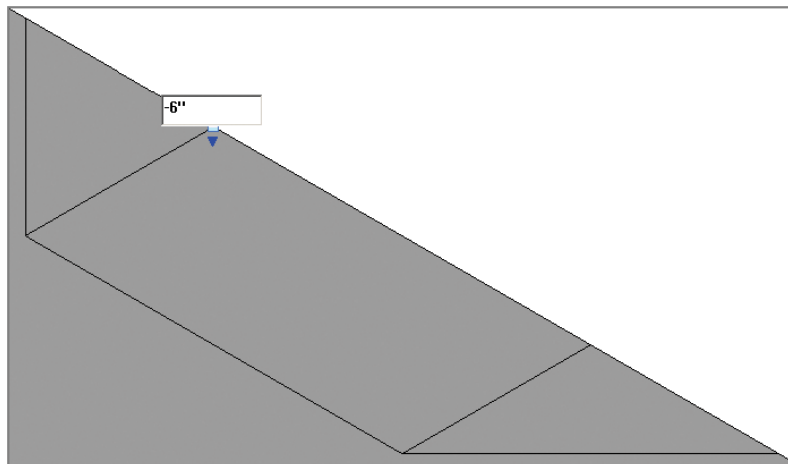

FIGURE 3.9 Editing the shape handle
3. Now that you've added the proper locations to break the slope, you need to modify the points at the ends of the lines to change the slope of the floor. Start by returning to your default 3D view. As you hover over the endpoint of the line, Revit Architecture highlights the shape handles. Press the Tab key to highlight a specific handle, and then select it (Figure 3.9).
4. Adjust the elevation of the shape handle as shown in Figure 3.9. In this case, you're depressing the floor, so the value must be negative. But you could also increase the elevation in a small area by using a positive value.